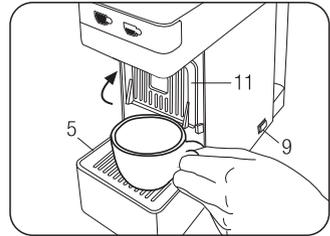
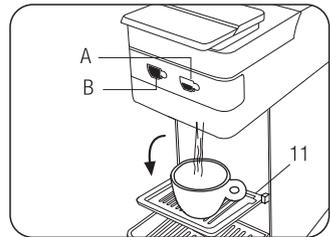

Fig. 5
Fig. 6
- Ensure that there are no capsules inside; power on the machine via the main switch (on the back) (9)
- Place a large empty cup under the coffee spout. **(Fig. 5)**
When the buttons (A) and (B) appear with a fixed light the machine is ready for use. Press a button (A) or (B); the machine dispenses water, press the button again when you have obtained the desired amount of water **(Fig. 6)**. The machine has been rinsed once at least three cups of water have been made.
To make an espresso using button (A) (small cup), place the rack (11) as in Fig. 6. When tall cups are needed, place the rack (11) as in Fig. 5, and place the cup directly on the rack (5) (Fig. 5)